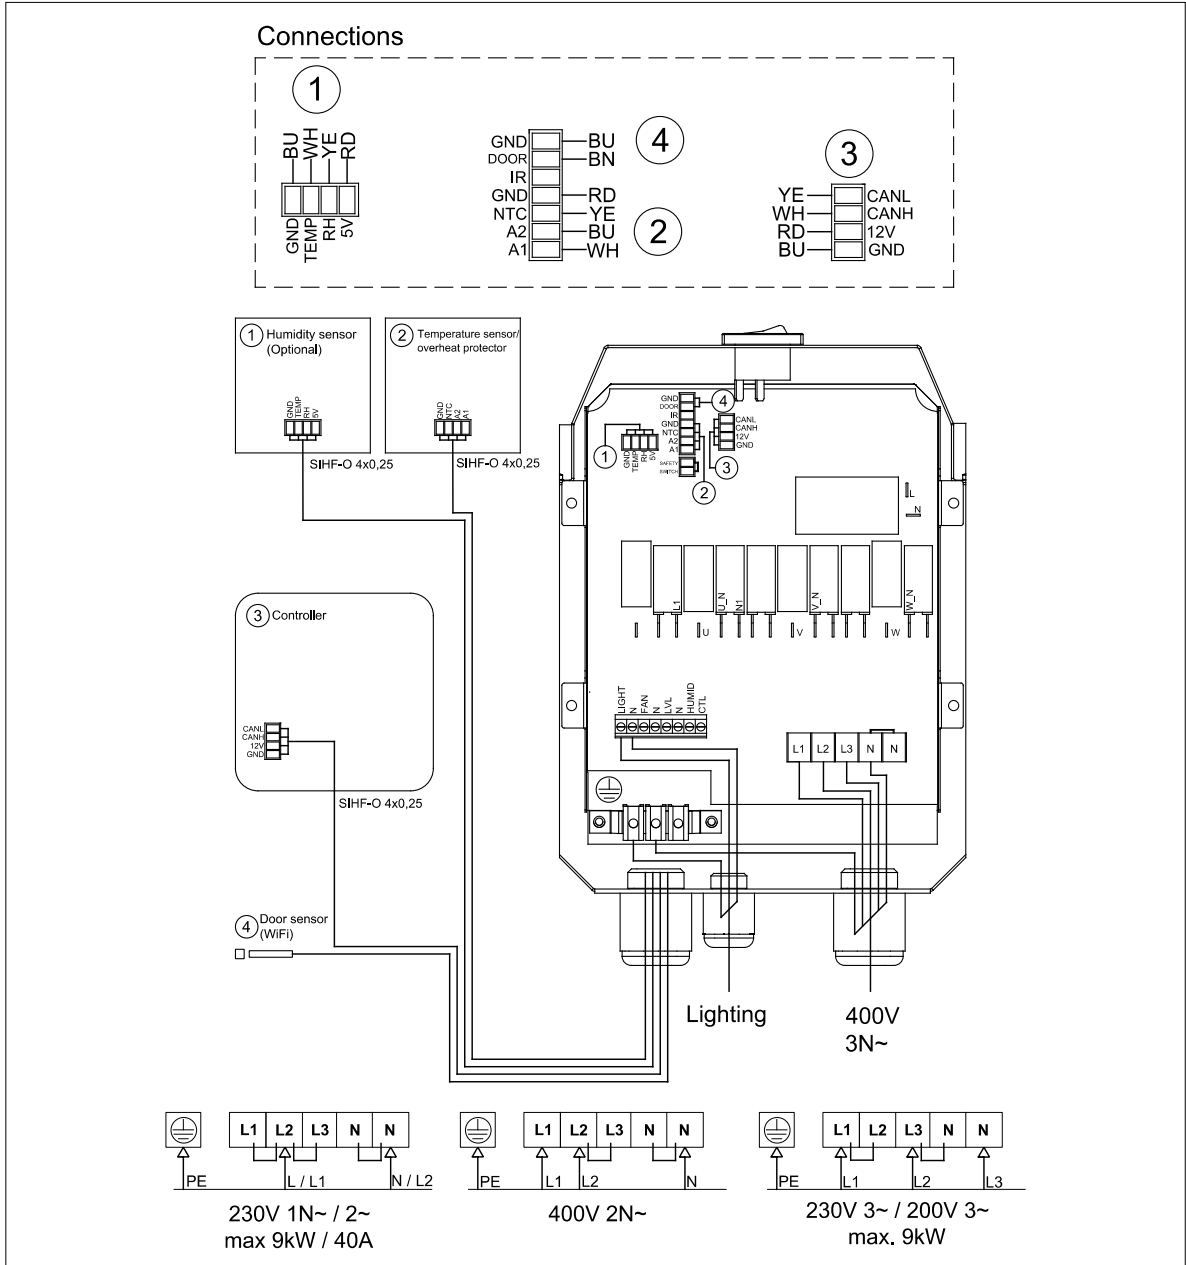

Figure 5.3-1. Connection diagram
6. Once the components of the controller have been installed and connected, the power supply cable can be connected to the sauna heater according to the connection diagram (Figure 5.3-1). The power supply cable must be a rubber cable of type H07RN-F or equivalent. The cable cross-section and fuse rating are shown in Table 6.1-2.